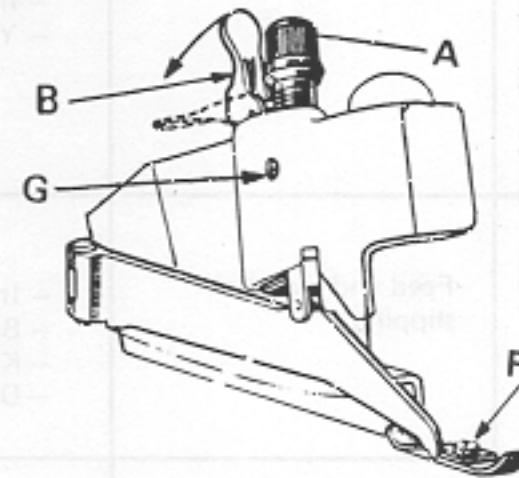

fig. 19
4. Press lever B right down (fig. 19).
### c) Positioning and adjusting presserfoot pressure (fig. 19).